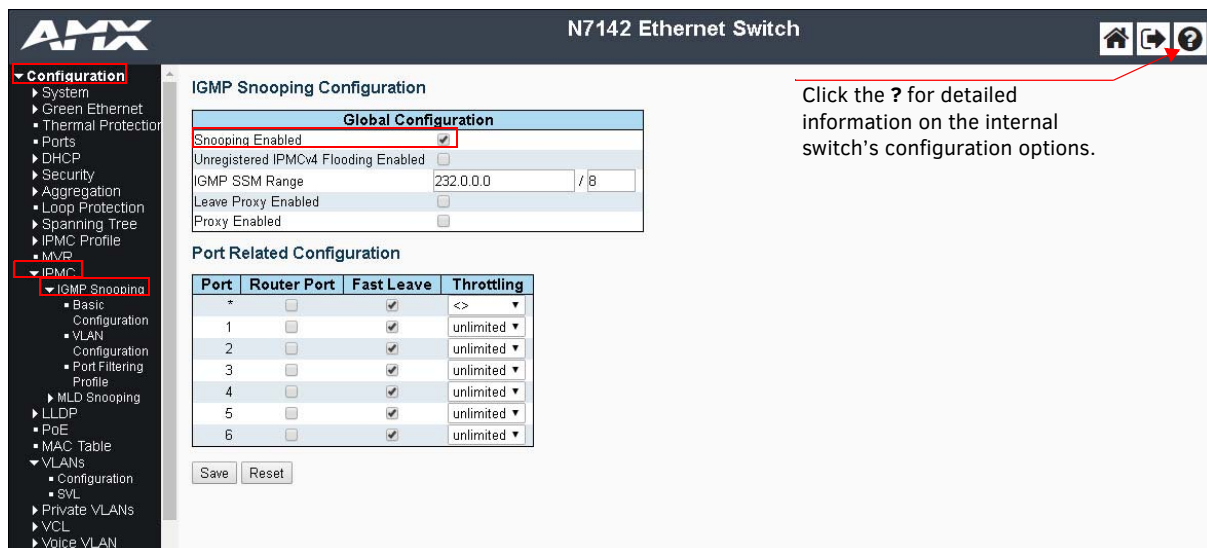

FIG. 6 Internal Switch IGMP Snooping Page
2. Check the **Snooping Enabled** box (as shown in Figure 6).